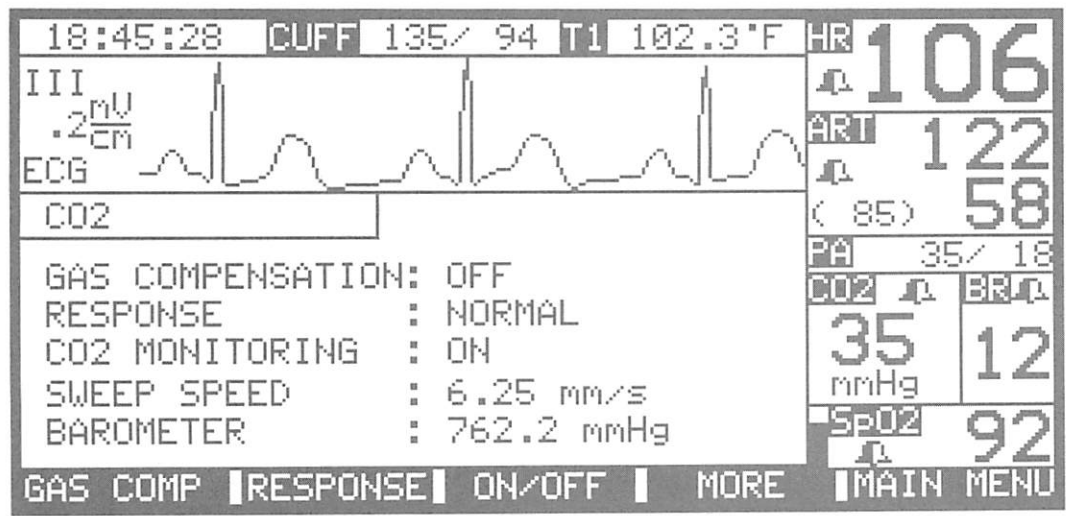

Figure 2-43. LCD display showing CO₂ Status Window
- 11 Press MORE to view the CO₂ status window as shown in Figure 2-43.